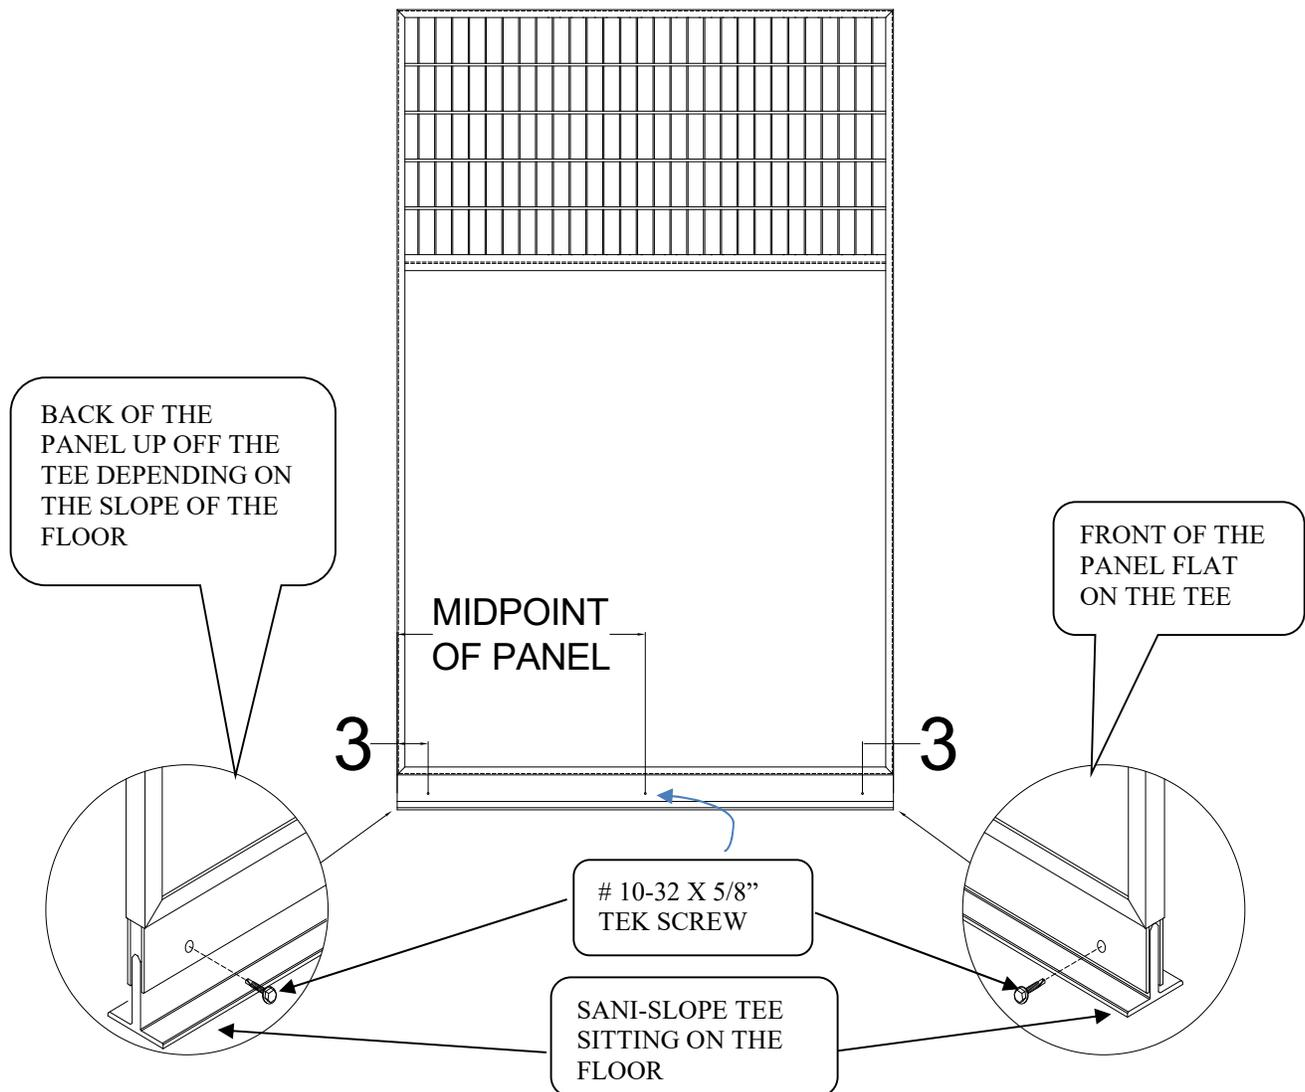

Figure 10
1. Using a hammer, tap all of the “Sanislope T’s” on the front end of the run, back until they are flush with the front edge of the division panel as shown in Figure 10.
3. While the panels remain level, apply downward pressure to the Sanislope T, drill a 11/64” hole at least 1/2” deep, through the “Sanislope H” at the bottom of the division panels into the “Sanislope T”, as shown in Figure 10. After each hole is drilled, drive a #10-32 x 5/8” TEK screw into the hole. Spraying a little WD40 into the hole before driving the screws will simplify the process. (**NOTE:** if your system is using the Silvis Seal, it is the downward pressure on the Sanislope Tee that ensures the Silvis Seal performs properly.)